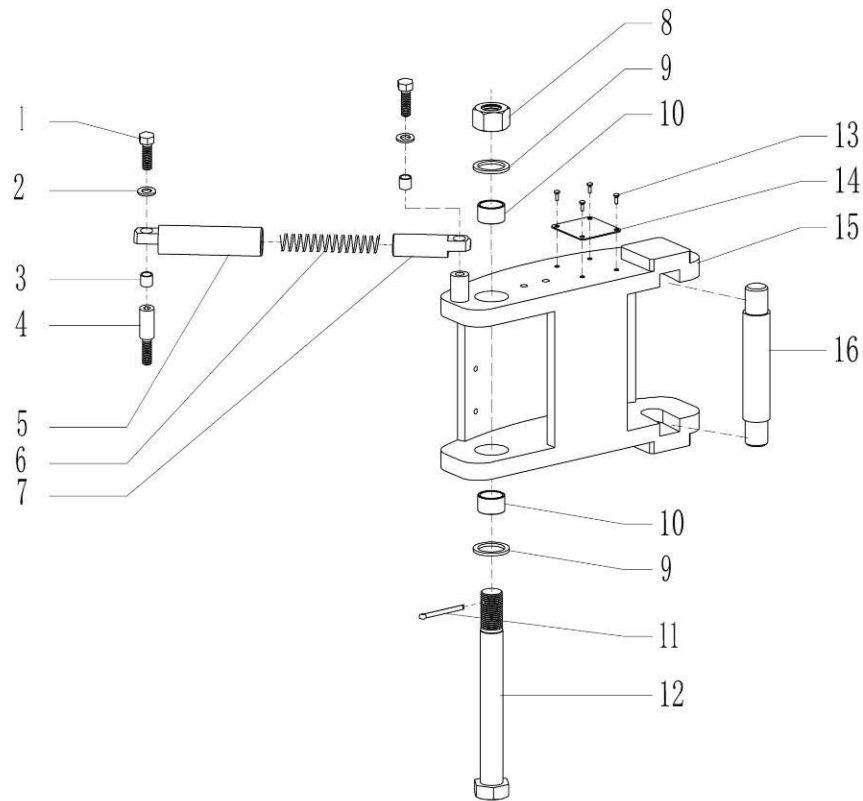

Fig. 7-7
7. Assembly of safety door (Fig 7-7, Table 7)